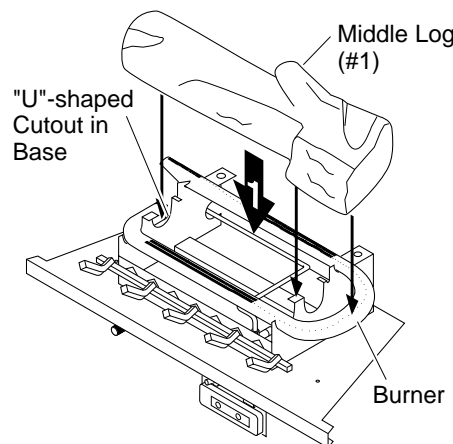

Figure 43 - Installing Middle Log (#1)
1. Place the base of the middle log (#1) in the U-shaped slots of the grate base. The cutout on the right of the middle log should fit over the burner (see Figure 43). Make sure the front of the middle log is resting on the tabs of the grate base and the cutout area is centered over the burner "U" bend.